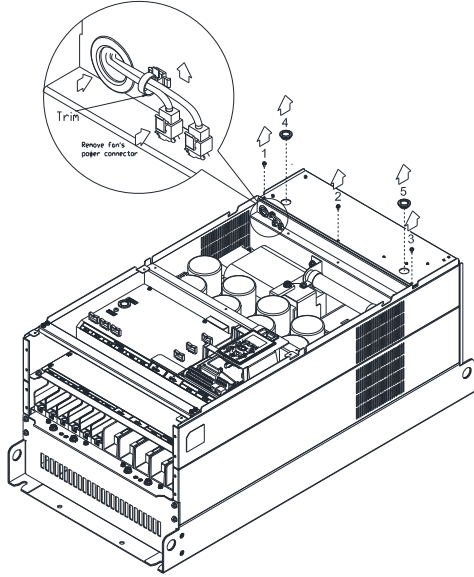

Figure 3
4. Loosen screw 1–3 and remove the protective ring (as shown in figure 3) Screw torque: 14–16 kg-cm / [12.2–13.9 lb-in.] / [1.4–1.6 Nm]